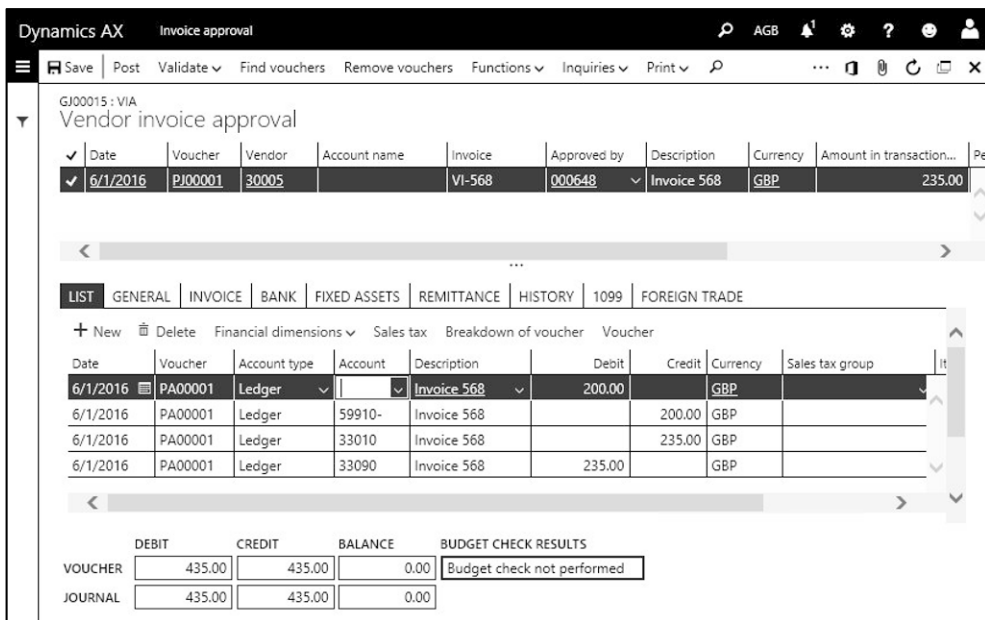

Figure 9-16: The invoice approval journal lines after fetching an invoice register
- **Not related to a purchase order** – In this case, select a ledger account – e.g. an expense account – in the lower pane of the invoice approval journal lines (first line in the lower pane of Figure 9-16). The expense amount does not include sales tax. If multiple expense accounts apply, enter multiple lines sharing the total amount. In order to post the approval finally, click the button *Post*.